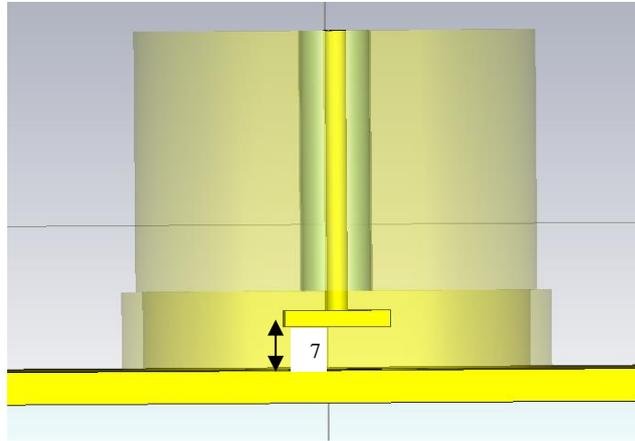

Fig 6
7. The distance of the bottom of rectangular strip from the hole on the waveguide surface is 9.5 mm. This is shown in Fig 6.